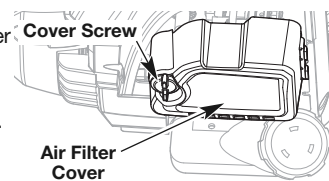

Fig. 16
1. Open the air filter cover by unscrewing the cover screw (Fig. 16).